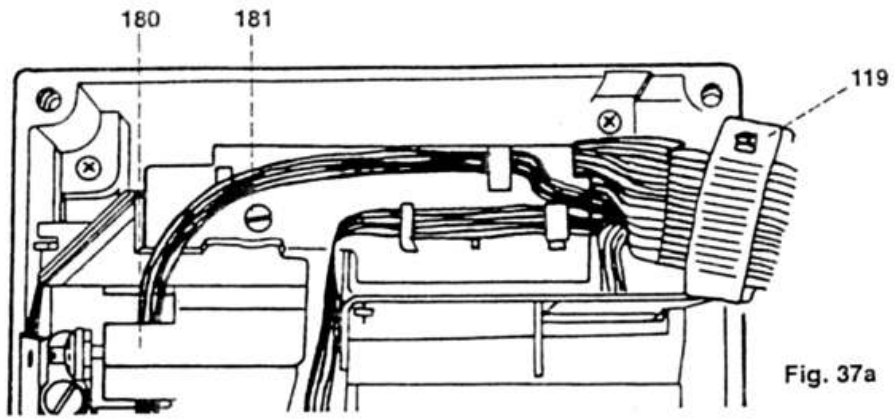

Fig. 37a
- Insert cable guide 180 and secure it with screw 181 (fig. 37a).
- Now the flat cables are connected to the circuit board as follows (fig. 37a):